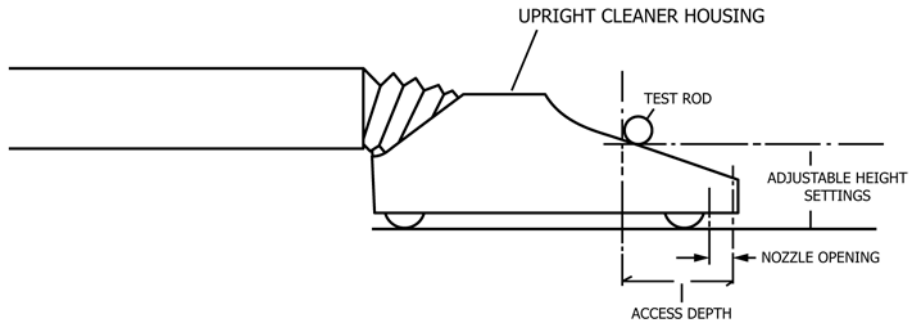

FIG. 1 Access Depth for Upright Vacuum Cleaners
7.1 Upright Vacuum Cleaners (Fig. 1):